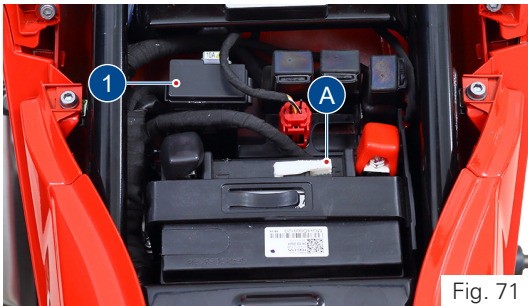

Fig. 71
- Press the lock and open the fuse box cover (1) (ref. Fig. 71).